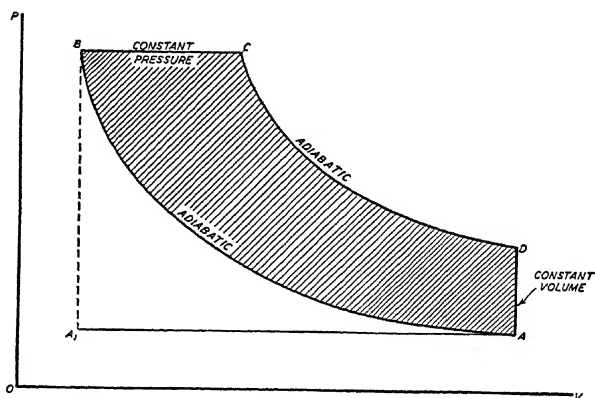

Fig. 24
The PV -diagram of the ideal Diesel cycle is given in Fig. 24. Air only is admitted to the cylinder along A_1A during the entire first stroke of the piston. It is then compressed adiabatically along the adiabatic curve, AB , during the return stroke of the piston. At point B , the end of the compression stroke, the pressure is about 500 pounds per square inch, and the corresponding temperature of about $1,000^\circ \text{F}$. is sufficiently high to ignite the fuel when it is injected into the cylinder in the form of a finely divided spray. This
- (b) the volume and temperature at point *B* (See Fig. 24)